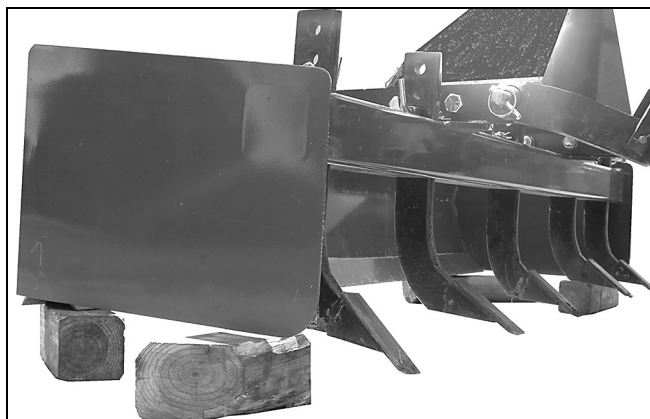

Figure 5. Box Scraper Blocked Up
1. Place two 6" x 6" blocks under each side frame of the box scraper as shown in Figure 5.
1. Block up machine by placing two 6" x 6" (15.24 x 15.24 cm) blocks under each side-frame of the box scraper (see Figure 5).
1. Place two 6" x 6" (15.24 x 15.24 cm) blocks under each side-frame of the box scraper (see Figure 5).